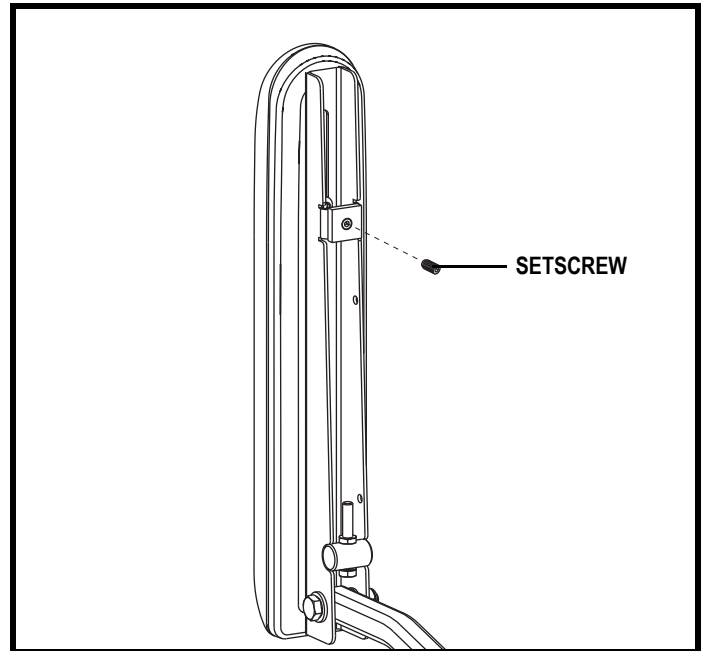

Figure 14. Underside of Armrest
2. Loosen the setscrew on the controller bracket. See **figure 14**.
5. Loosen the setscrew on the controller bracket. See **figure 14**.